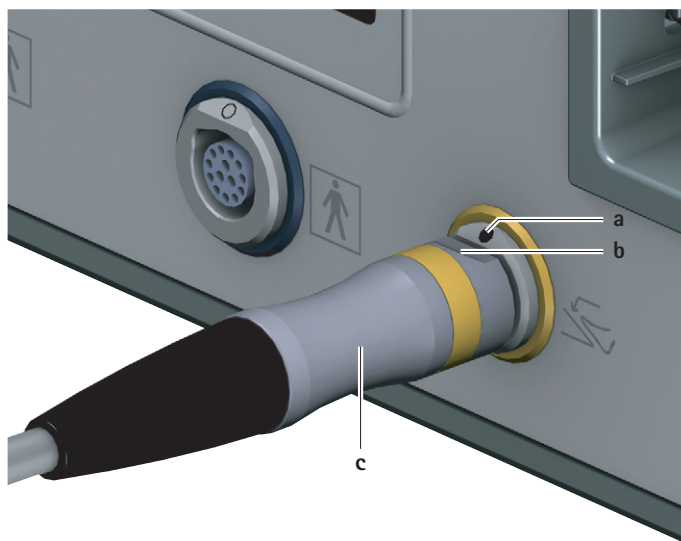

Fig. 2 Connecting the foot control
- ▶ Position connector of foot control c so that marking b on the connector is aligned with marking a on the connection socket for foot control 6, see Fig. 2.
- Unplug connector for foot control **c** from the connection socket for foot control **6**, see Fig. 2.